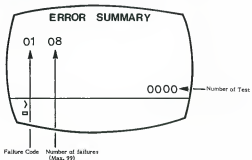

Figure 3-5. Error Summary.
Errors during the RAM, PORT, and verify OS ROM Test are displayed on the matrix shown in Figure 3-5.
- **Format:** If error code 30 appears on the Error Summary (Figure 3-5) the OS ROM chip is defective. Replace the defective chip and restart the test.
- **Format:** The test is done internally with failures appearing on the Error Summary (Figure 3-5).